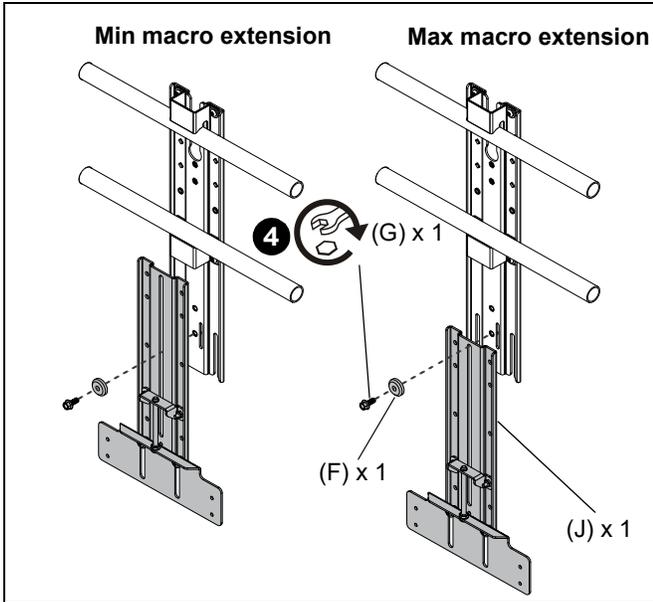

Figure 5
4. Use 1/4-20 x 5/8" hex head flange screw (G) and center washer (F) to secure lower adjustment assembly (J) to upright assembly (A).
- **(Maximum macro extension)** Slide lower adjustment assembly (J) until top of channel stops against 1/4-20 x 5/8" screw. (See Figure 5)
- **(Minimum macro extension)** Slide lower adjustment assembly (J) until top of bracket stops against bottom of rail bracket. (See Figure 5)